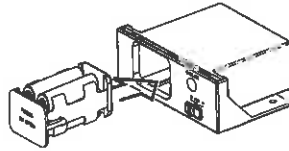

Figure 5
- In order to prevent the Remote Receiver (fireplace installation only) from overheating, put a heat shield (option item) above the Remote Receiver. See *Figure 5*.